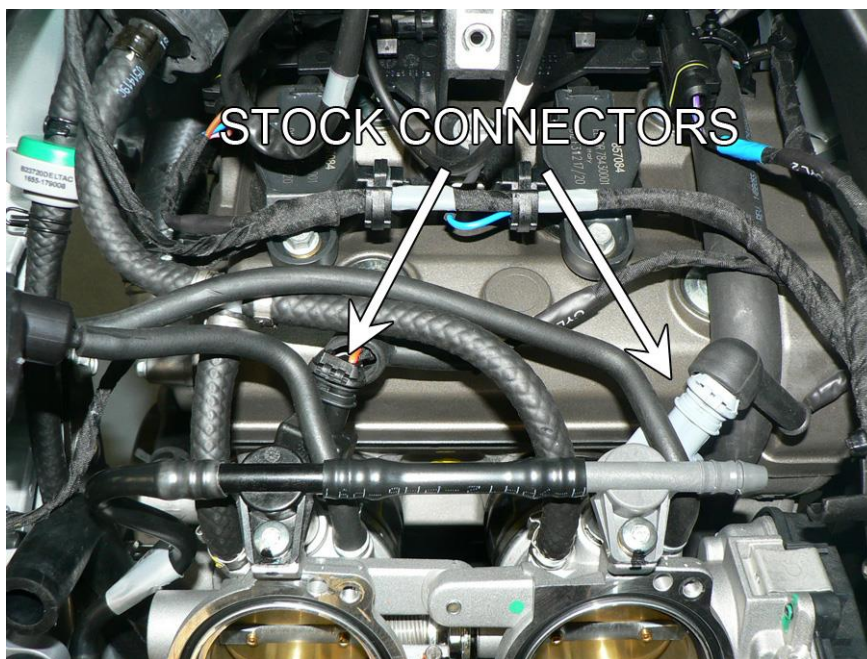

Fig.1
3. Locate and disconnect the two 2 pin black and grey connectors (**Fig.1**).